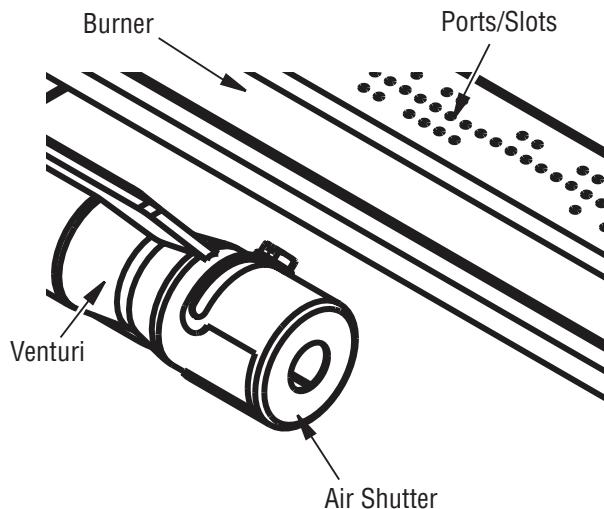

Figure 31 - Injector Holder On Outlet Burner Tube
2. Inspect burner, air shutter and orifice for dust and dirt (see **Figures 31 and 32**).